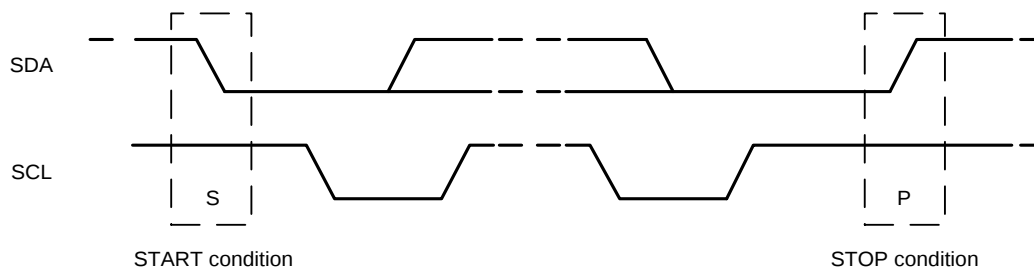

Figure 5: I²C Start and Stop Conditions
Communication on the I²C bus starts when the master puts the START condition (S) on the bus, which is defined as a HIGH-to-LOW transition of the SDA line while SCL line is HIGH (see Figure 5 below). The bus is considered to be busy until the master puts a STOP condition (P) on the bus, which is defined as a LOW to HIGH transition on the SDA line while SCL is HIGH.